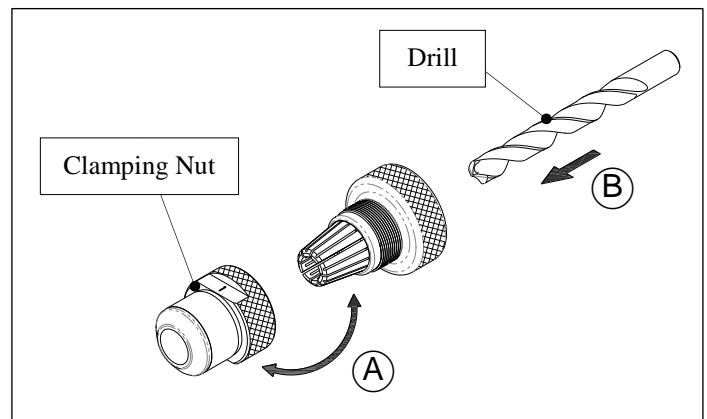

Fig. 5-2
3. Drill (B) insert collet into collet holder and assemble them with the clamping nut. (Fig. 5-2)